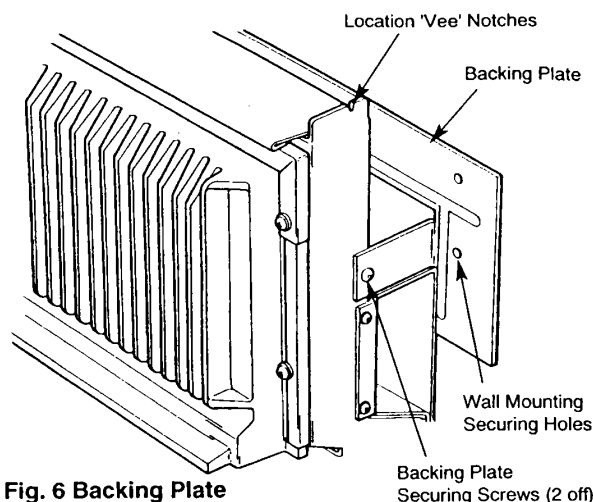

Fig. 6 Backing Plate
- (a) Fit the fire backing plate to the fire using the M5 x 8mm thread forming screws provided. The backing plate may be screwed to the wall for extra support if necessary (Fig. 6).
- (b) Fit the fire backing plate to the fire using the M5 x 8mm thread forming screws provided.(Fig. 6)
- (e) Push the fire backwards until the fire backing plate touches the surround or finished wall face. Mark the position of the two lower securing holes in the fire backing plate (Fig. 6).
- (b) Lift the outer case over the heat exchanger and locate the two 'vee' notches in the top of the case into the 'vee' notches at the top of the heat exchanger support legs (Fig. 6).